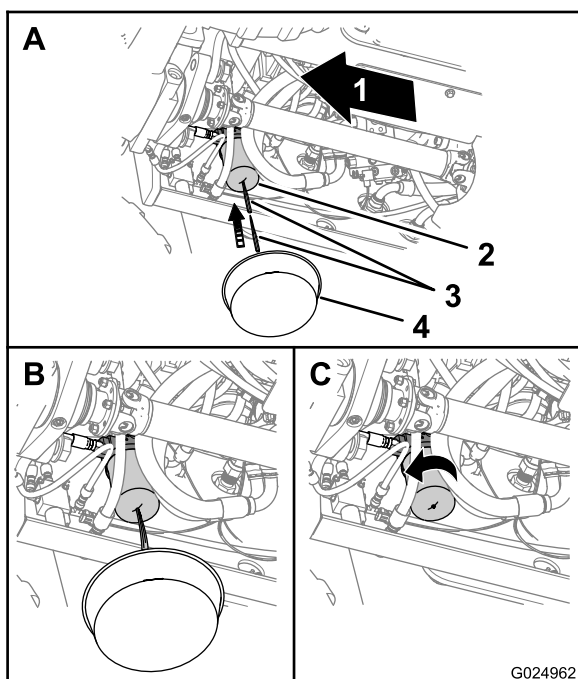

Figure 1
1. Place a drain pan under the transmission-oil filter (Figure 1).
2. Puncture the bottom of the transmission filter, and allow the residual hydraulic fluid to drain into the drain pan (Figure 1).
3. Remove the transmission filter with a filter wrench and discard the filter (Figure 1).
6. Install the new filter by hand and tighten the filter 1/2 to 3/4 turn after it makes contact with the filter head (Figure 1).